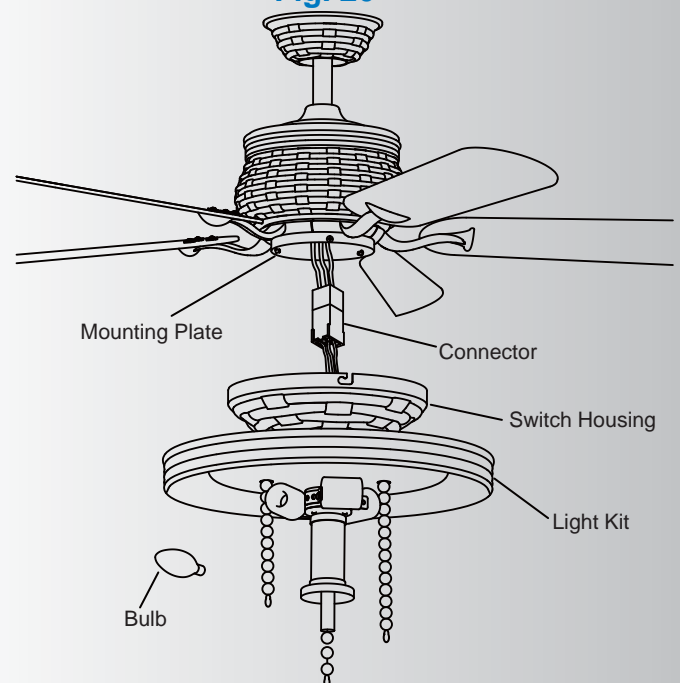

Fig. 21
Step 5. The square plastic wiring connector from the ceiling fan and the light fixture will only fit together one way. Match up the color on the side of each connector, then push them together until the snap engages. (Fig. 21)
Step 6. Tuck the connections neatly into the switch housing. Align the key hole on the switch housing with the screws on the side of the mounting plate. Turn the light fixture until it locks in place at the narrow end of the key holes. Reinstall the screw you removed and tighten the 2 other screws. Now, install 3, 40 watt candelabra base lamps (not included) in the light fixture (Fig. 21).